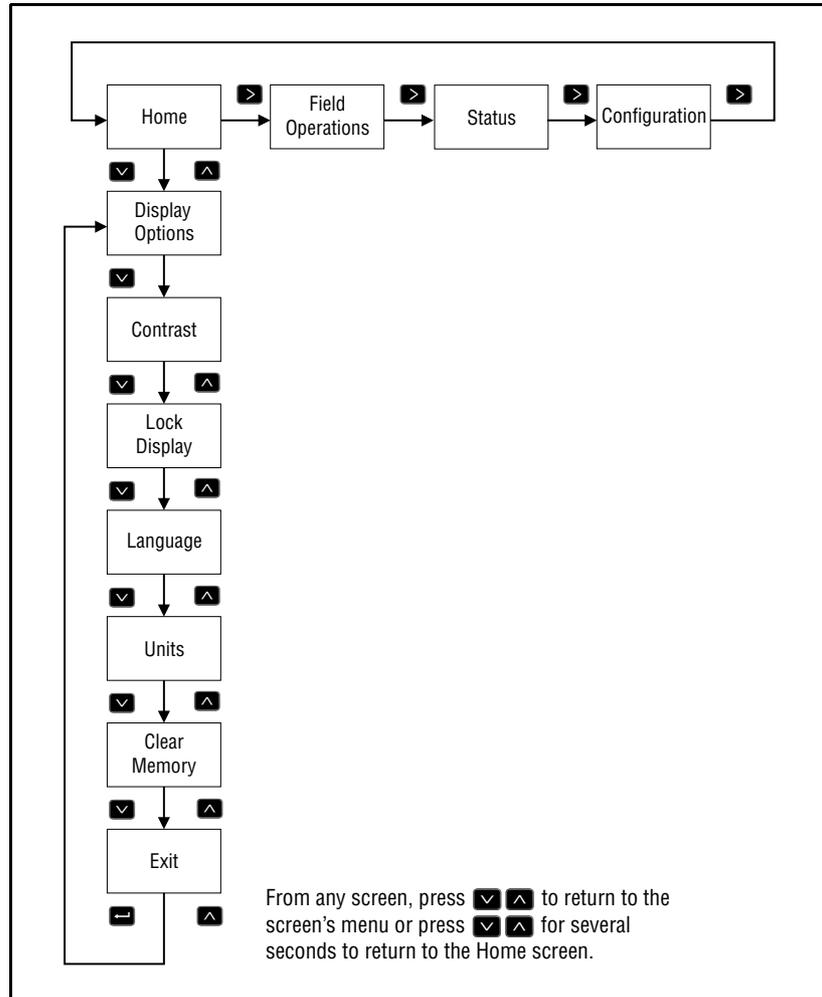

Figure 3.7 Home Screen and Upper-Level Menu Navigation Map
Figure 3.7 shows the *Home* screen, the screens on the *Display Options* menu, and the top level of the *Field Operations*, *Status*, and *Configuration* menus. The keys shown in the navigation map are pressed to navigate between the menus and screens.
Two levels of menus exist in the AgGPS menu system. The upper level (see Figure 3.7) includes these menus:
- The actions of the keypad keys are not the same when a menu or screen is displayed (see Figure 3.7).
All lower-level AgGPS menus include the same basic elements. In the case of lower-level menus, you are returned to an upper-level menu—the *Field Operations*, *Status*, or *Configuration* menu (see Figure 3.7). From the upper-level menu, you can press 2 a second time to return to the *Home* screen.
The actions of the 124/132's front display keypad & AgRemote keypad buttons are not the same when a menu or screen is displayed (see Figure 3.7).